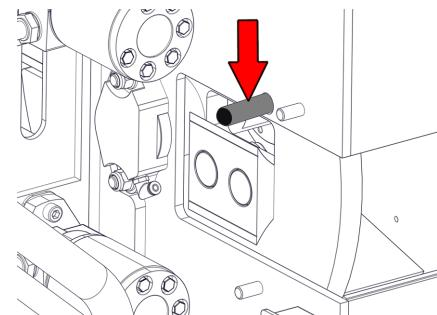

Figure 22 - Locking Bar Inserted
6. Insert locking bar through rotor housing and rotor (Figure 22).